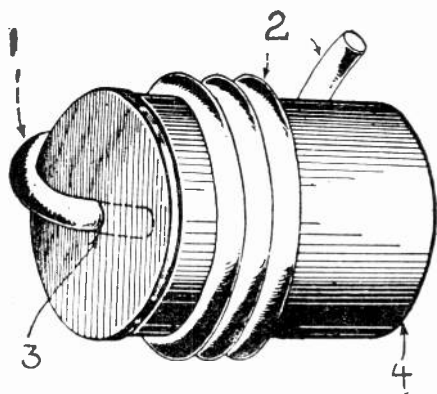

FIG. 4
by employing the method illustrated in Fig. 4. A hole (3) that will accommodate the tubing is made near the edge of a good, stiff tin-can (4) and the tube inserted for about an inch. This part of the can is then held firmly against the bench while the tubing is bent securely around the circumference (2) of the can. Gradually rotate the can as the tubing is wound on with each successive turn securely against the preceding one. Wind both coils in one operation and cut them apart later. When the required number of turns is wound on, slip the tubing off. You will find that the final inside diameter of the turns is slightly over 4 inches, due to the spring in the copper. The small piece (1) that was inserted in the hole in the can may be straightened out or cut off as desired. If the tubing is rolled up, as it usually is when purchased, it should be straightened out before winding; otherwise small bends in the final winding will be noticed. To make the coils space-wound, each turn should now be separated from its neighbor by about 1/8 to 3/16-inch. Start at one end and gently pull each turn out till it remains at the required distance. Quite a neat job may be done if reasonable care is taken. The completed coils will be found to be very good electrically and very rigid, an important item.